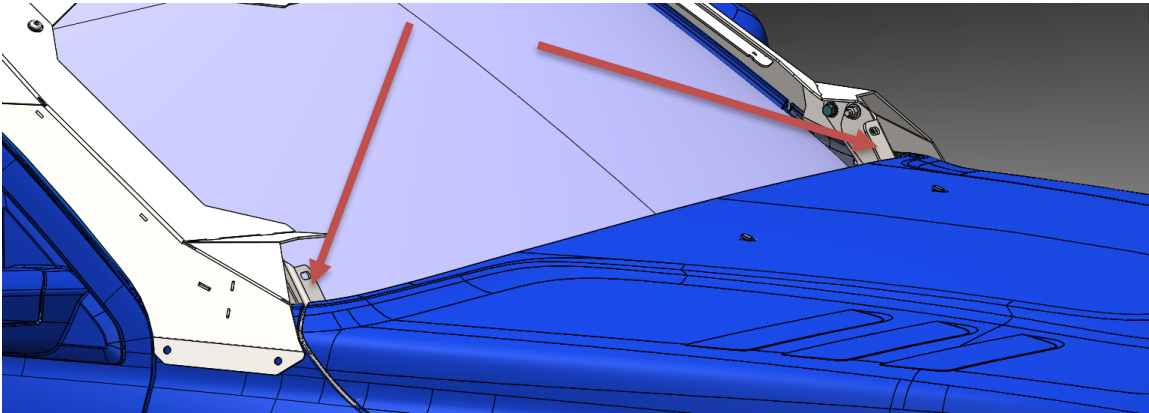

Fig 17
- p. With the help of a friend, lift the ViCowl cowl up over the hood and slowly lower it down on the mounting surface as shown in **Fig 17**.